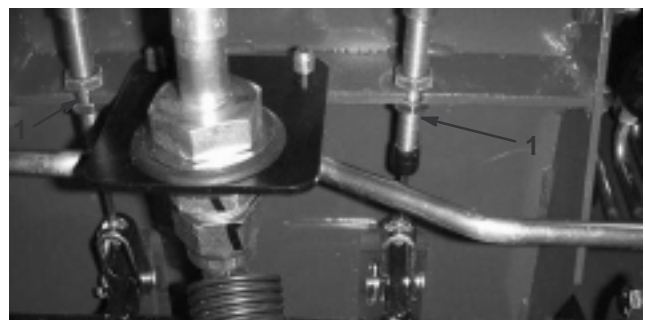

Figure 50
- A. Loosen the front nut on the threaded end of the brake cable (Fig. 50).